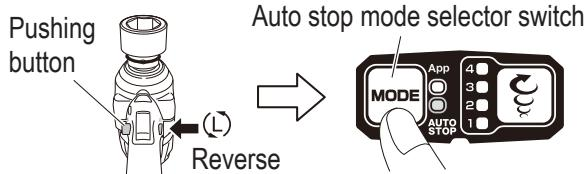

Fig. 22
(4) Auto slow mode (Only when in reverse rotation) (Fig. 22, Table 7)